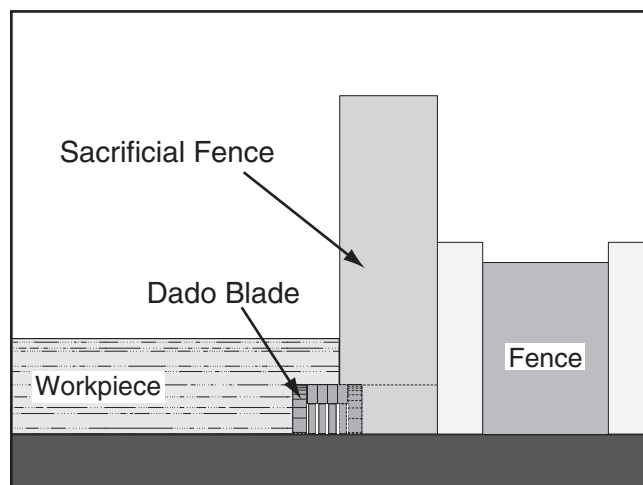

Figure 83. Rabbet cutting.
3. Adjust the fence and align the workpiece to perform the cutting operation, as shown in **Figure 83**.